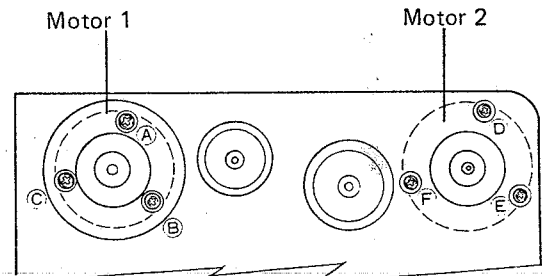

Figure 23
- (1) Remove three screws marked "A", "B", and "C" and four wires of white, orange, blue, and yellow from terminal P.C. Board to remove the motor marked "1" as shown in Figure 23.
- (2) Remove three screws marked "D", "E", and "F" and two wires of red and black from terminal P.C. Board to remove the motor marked "2" as shown in Figure 23.
- (3) After replacement with the good motor, assemble